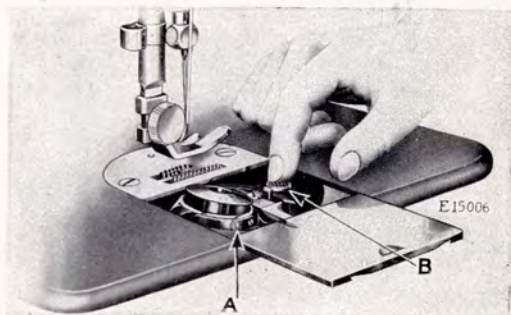

FIG. 4. REMOVING THE BOBBIN
upon the bobbin ejector (B, Fig. 4); this will raise the bobbin so that it can easily be taken out.
The tension on the bobbin thread is regulated by the screw (A, Fig. 4, page 9) in the bobbin case tension spring. To increase the tension, turn the screw (A) over to the right. To decrease the tension, turn this screw over to the left.